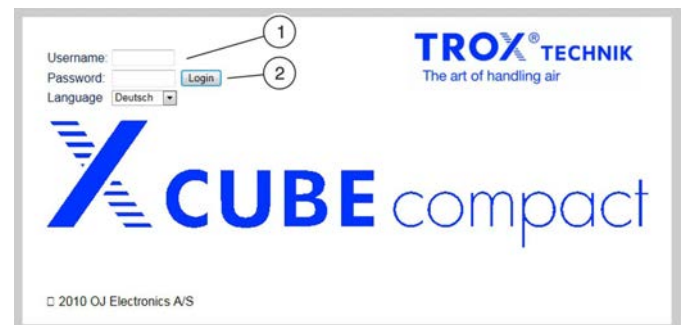

Fig. 24: Logging in to the web server
- Enter your user name (Fig. 24/1).
- Click on 'Login' (Fig. 24/2).